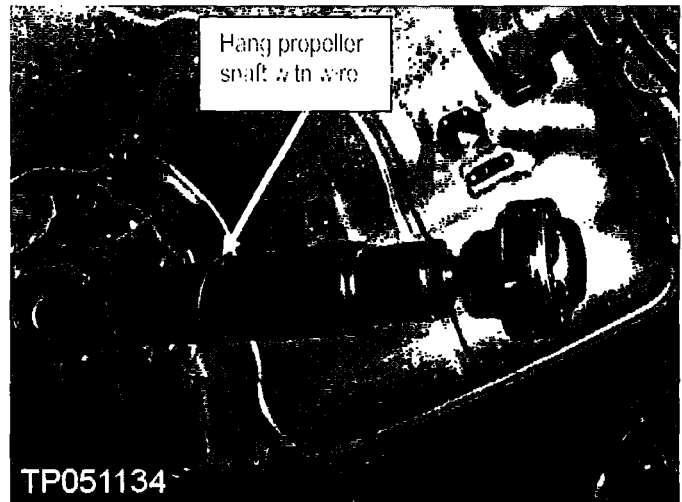

Figure 57
23. Use a piece of wire to hang the propeller shaft from one of the heat shield brackets (see Figure 57). Make sure the shaft is positioned to one side of the differential pinion flange.